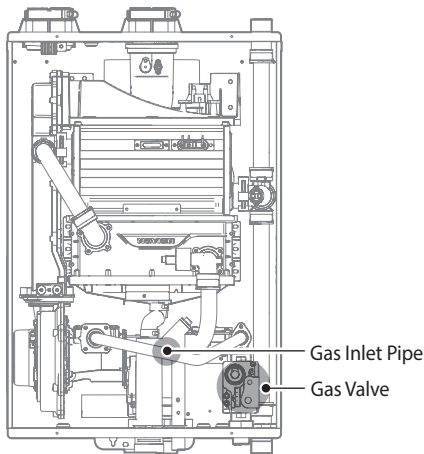

Figure 2. NHB Series Internal Components
8. With the internal components exposed, locate the gas inlet pipe and the gas valve in the middle of the unit, as shown in Figure 2.